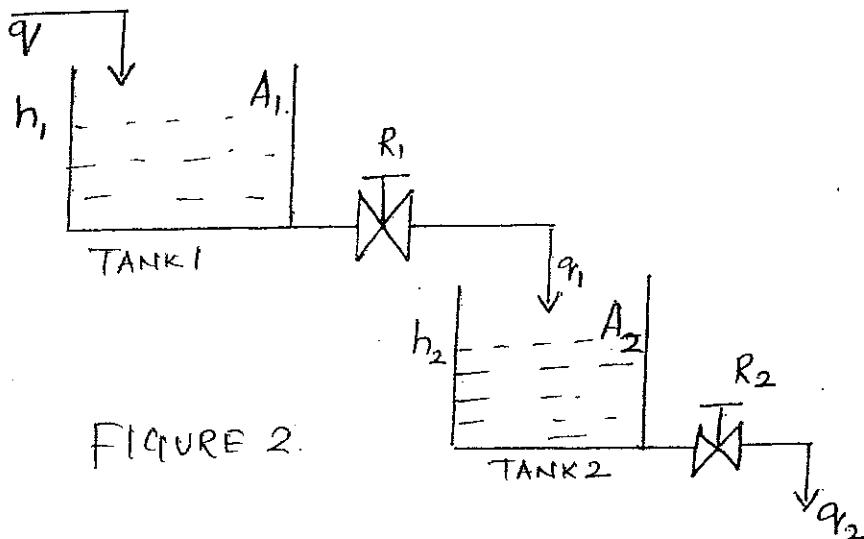

FIGURE 2.
4. Consider the tanks shown in Figure 2. Find the overall transfer function for a unit step input. [12M]